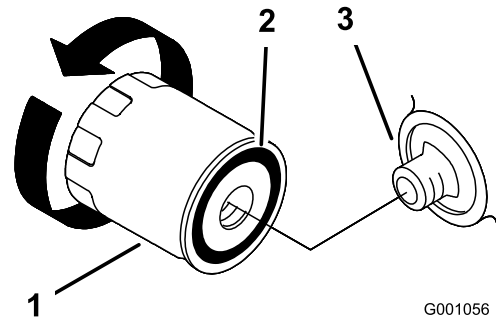
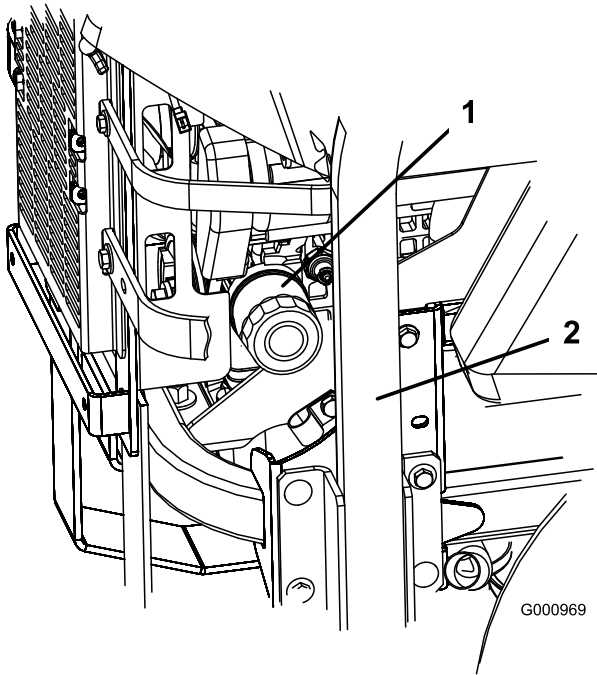

Figure 44
Figure 43
3. Turn the filter counterclockwise to remove it (Figure 43 and Figure 44).